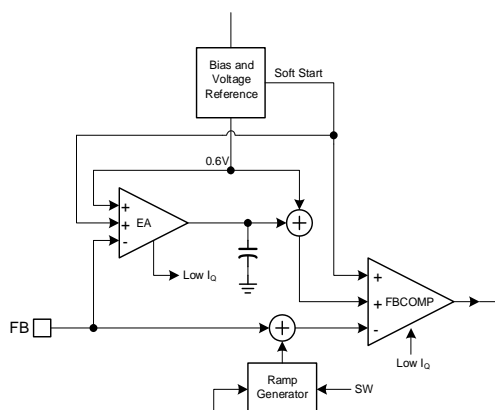

Figure 2: Operation Blocks in Sleep Mode
The MP2193 offers sleep mode to achieve high efficiency under extremely light loads. In sleep mode, most of the circuit blocks are turned off except for the error amplifier (EA) and PWM comparator. This reduces the operating current to a minimal value (see Figure 2).